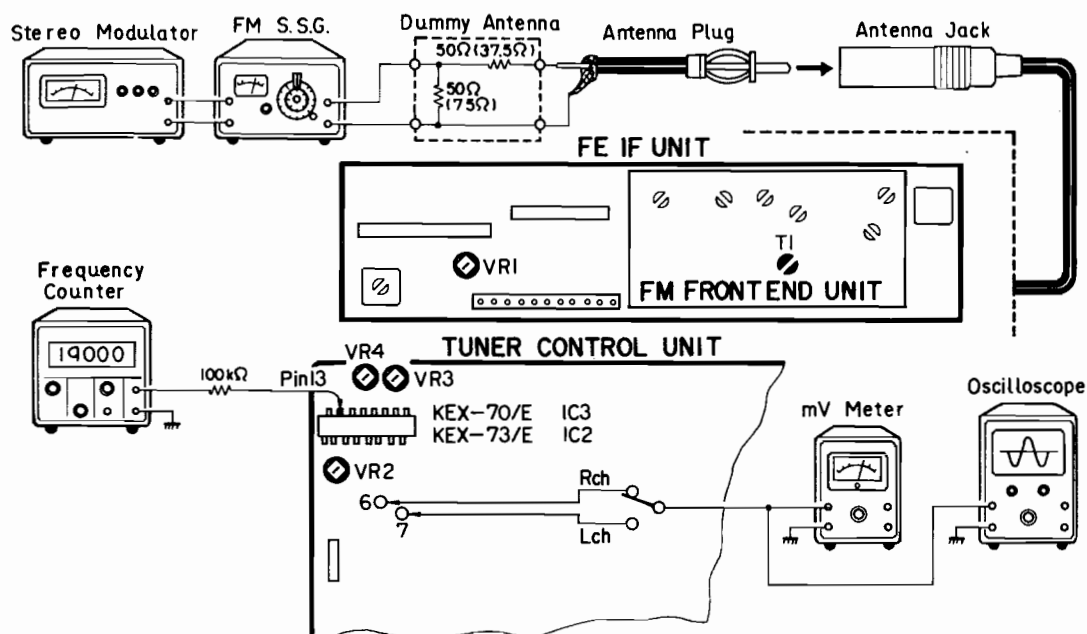

Fig. 28
#### • Connection Diagram (shown in Fig. 28)
- Connection Diagram (shown in Fig. 28)